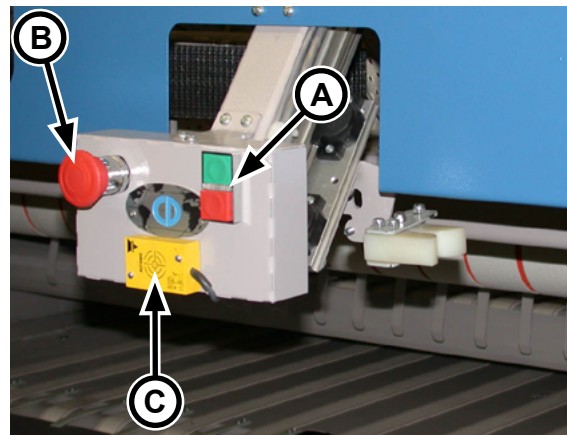

Figure 2-17: Feeder operator controls— inlet arm.
4. Press the green Start button (Figure 2-17, A) on the O.P.L. unit. Make sure the various components of the unit start moving.
5. There are three red safety STOP buttons (Figure 2-17, B) across the front of the unit:
- c) Touch the target pad (Figure 2-17, C) to activate.